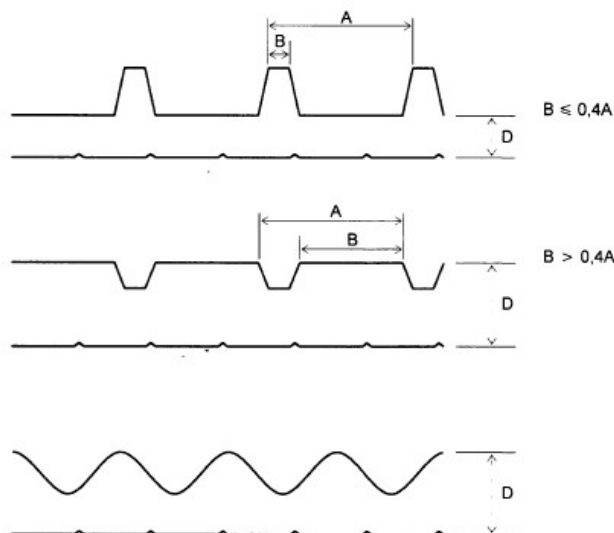

Fig. D.1
The measured thickness (D) of the panel shall be the nominal distance between the external flat surfaces of the faces excluding from the measurement any trapezoidal profiles or stiffeners and including the thickness of both metal faces (see Figure D.1). These measurements shall be taken at each end of the panel on lines 200 mm from the ends of the panel and at a minimum distance of 100 mm from the longitudinal edge. Two of these measurements shall be at the opposite edges of the panel and one at the centre. In the case of panels that have profiled faces, the measurement shall be made at the position of predominant thickness. FPC records shall indicate where, within the geometry of the panel, this measurement is to be made and a consistent measurement location shall be used.